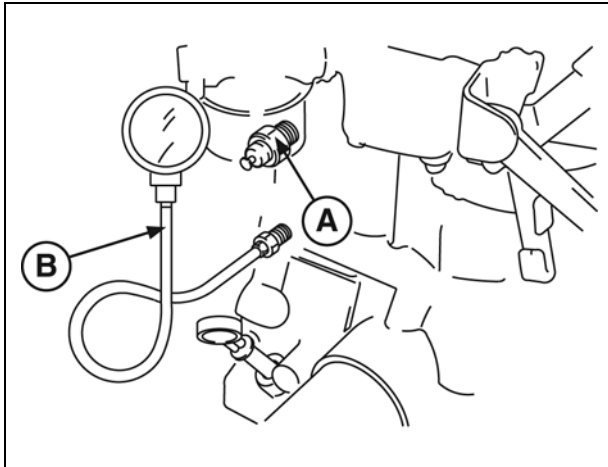

Figure 5
2. Remove oil pressure switch (**A**, Figure 5).